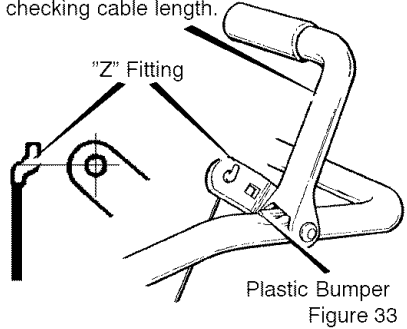

Figure 33
**To check for correct adjustment, unhook "Z" fitting at clutch lever (see Figure 33).**
5. Disconnect the **"Z" fitting** from the **drive lever** (see Figure 33).
11. Install the **"Z" hook** to the **traction drive lever** (see Figure 33).